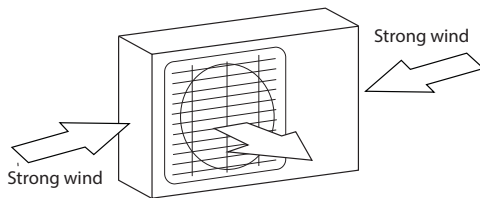

Fig. 5.1
- ☑ If the location is exposed to strong winds (for example: near a seaside), the unit must be placed against the wall to shelter it from the wind. If necessary, use an windbreaks (or similar). (See Fig. 5.1 & 5.2)